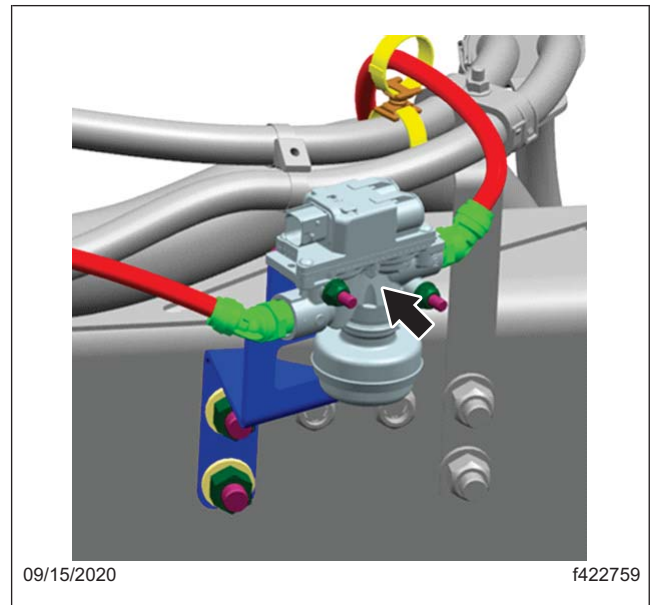

Fig. 21, New Modulator Assembly
6. Assemble the new modulator assembly as shown in Fig. 21.